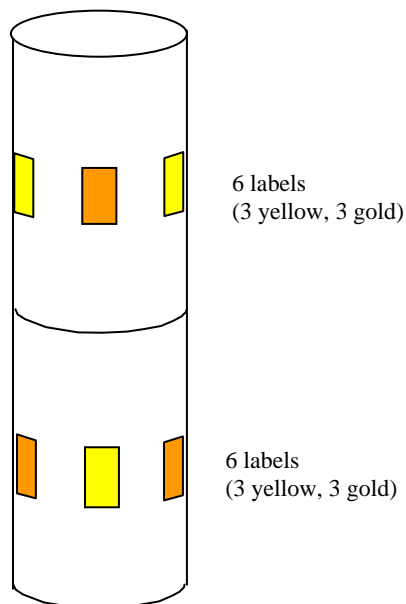

Figure 3 – Application of thermal labels on ablative tube specimen
- 2) Thermal labels are to be applied to outside of ablative tube specimen. Exact location of labels is not important. Figure 3 shows a suggested layout.